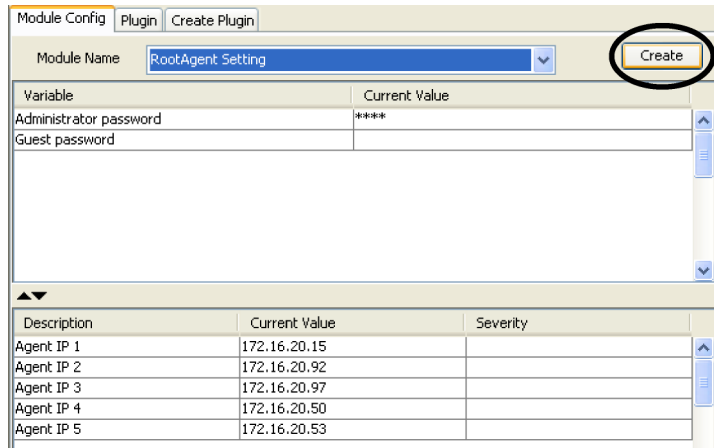
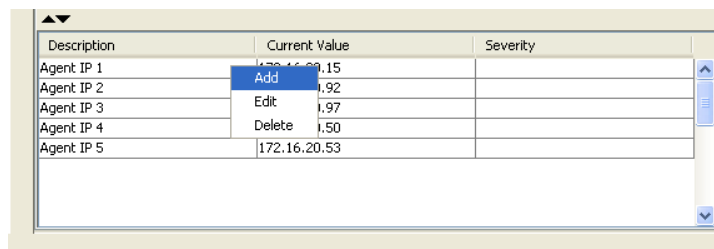

Fig. 4.16 Agent List under Root Agent Setting
Fig. 4.17 Agent List Right-click Menu
2. To add or delete RAID Agents, click the *Create* button next to the Root Agent pull-down list to open an *Add Monitor Controller* window. (See *Figure 4.16*) The same command can also be activated by right-clicking on the agent list under *Current Value* section. (See *Figure 4.17*)